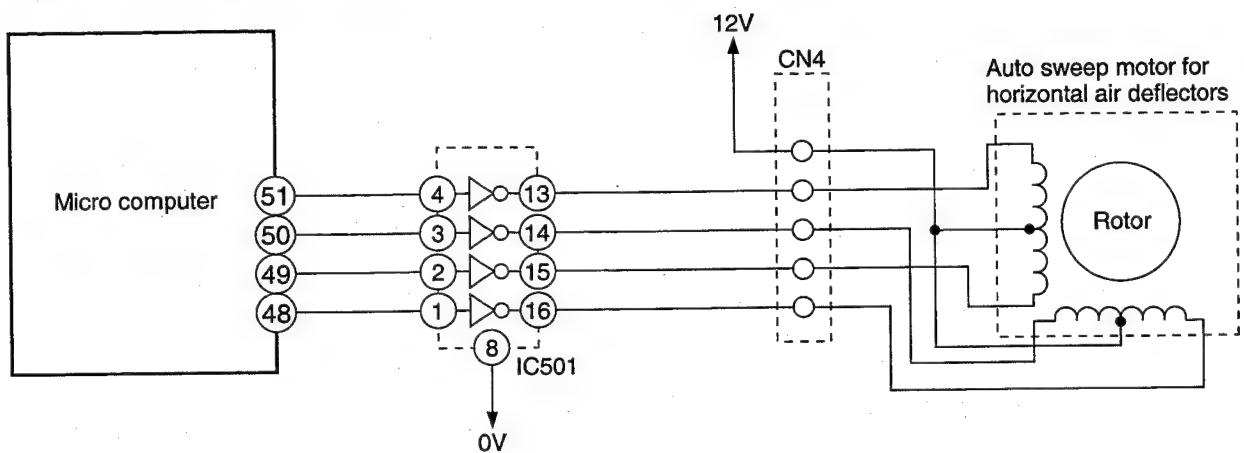
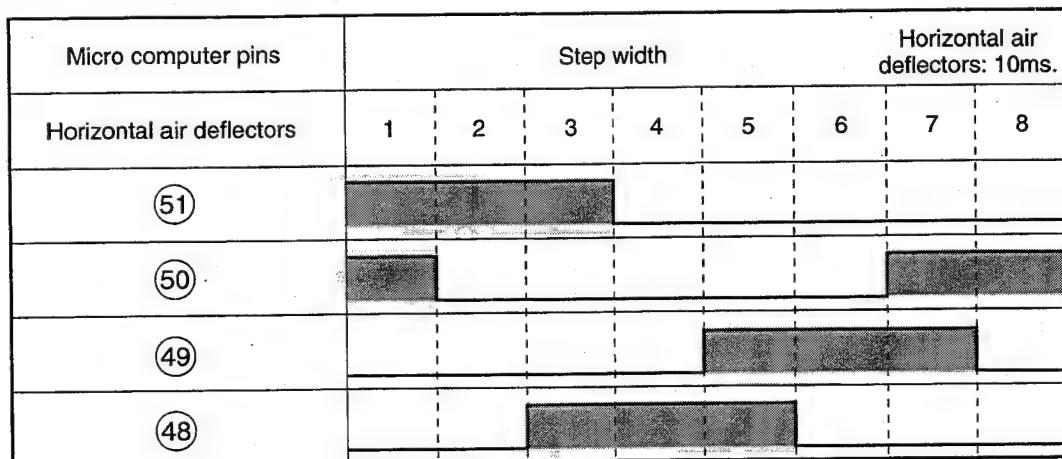

Fig. 4-1 Auto Sweep Motor Circuit (Horizontal air deflectors)
Fig. 4-2 Micro computer Output Signals
- Fig. 4-1 shows the Auto sweep motor drive circuit; the signals shown in Fig. 4-2 are output from pins (48)–(51) of the micro computer.
- As the micro computer's outputs change as shown in Fig. 4-2, the core of the auto sweep motor is excited to turn the rotor. Table 4-1 shows the rotation angle of horizontal air deflectors.